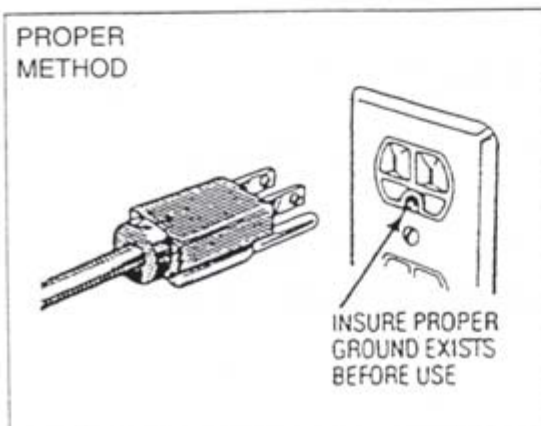

Fig. 8-1 RIGHT
6. **THIS MACHINE IS PROVIDED WITH A THREE-PRONG GROUNDING PLUG. THE OUTLET TO WHICH THIS PLUG IS CONNECTED MUST BE PROPERLY GROUNDED. IF THE RECEPTACLE IS NOT THE PROPER GROUNDING TYPE, CONTACT AN ELECTRICIAN. DO NOT UNDER ANY CIRCUMSTANCES CUT OR REMOVE THE THIRD (GROUND PRONG) FROM THE POWER CORD OR USE ANY ADAPTER PLUG. (See Fig. 8-1, 8-2)**